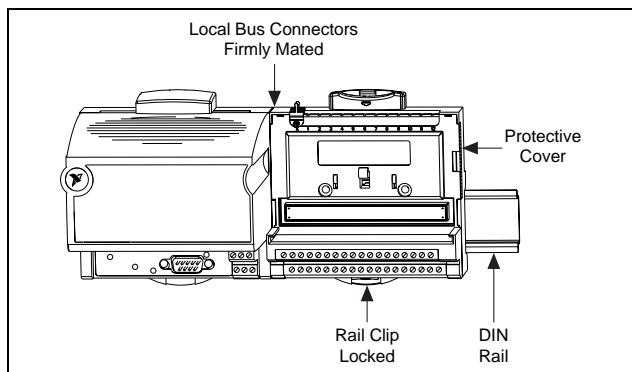

Figure 4. Installed Network Module
4. Place the protective cover over the local bus connector of the last terminal base in the bank. Figure 4 shows an installed FP-1600 network module on a DIN rail.